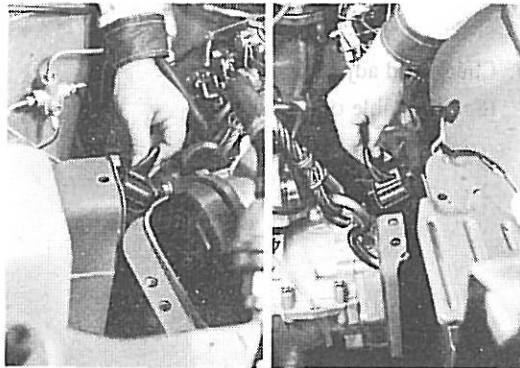

Fig. 3-25 Removing Engine Mounting Front Insulator
- (2) Remove the engine mounting front insulator setting bolt. And move the engine as shown in Fig. 3-25 so as to remove the engine mounting front insulator.